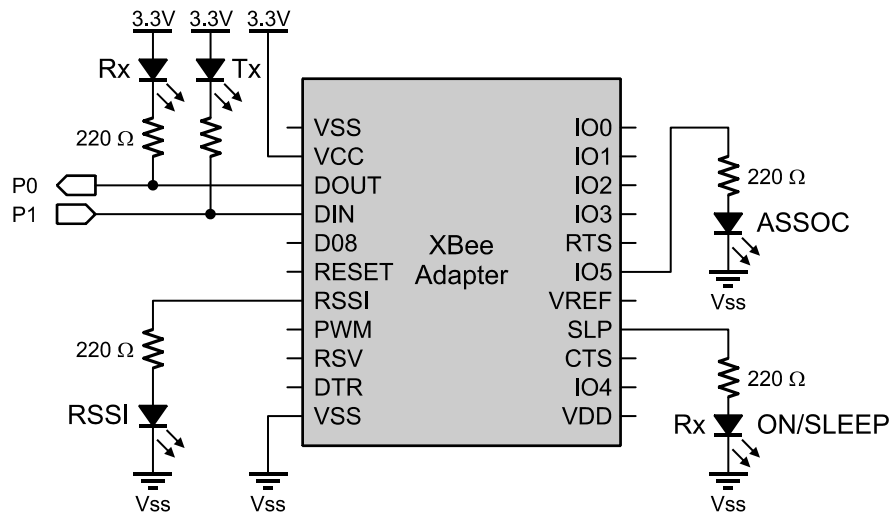

Figure 4-9: Propeller to XBee Adapter Board Interface with Optional LEDs
- ✓ Connect the Propeller to an XBee Adapter Board as shown in Figure 4-9. LEDs and resistors are optional but are useful.